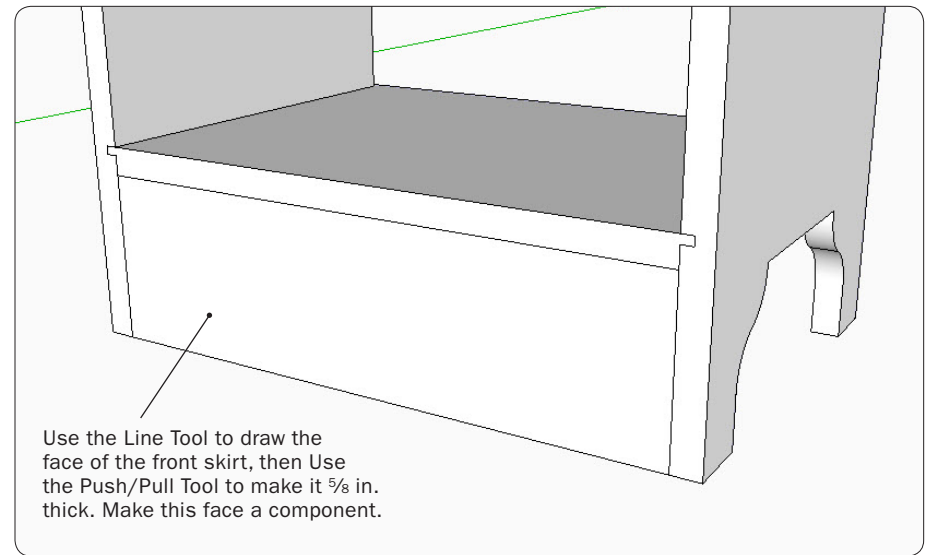

Figure 12. Draw the rough shape of the front skirt.
Step 9 Use the Line Tool to draw the boundary of the front skirt, as shown in Figure 12. Then use the Push/Pull Tool to make the skirt $\frac{5}{8}$ -in. thick.